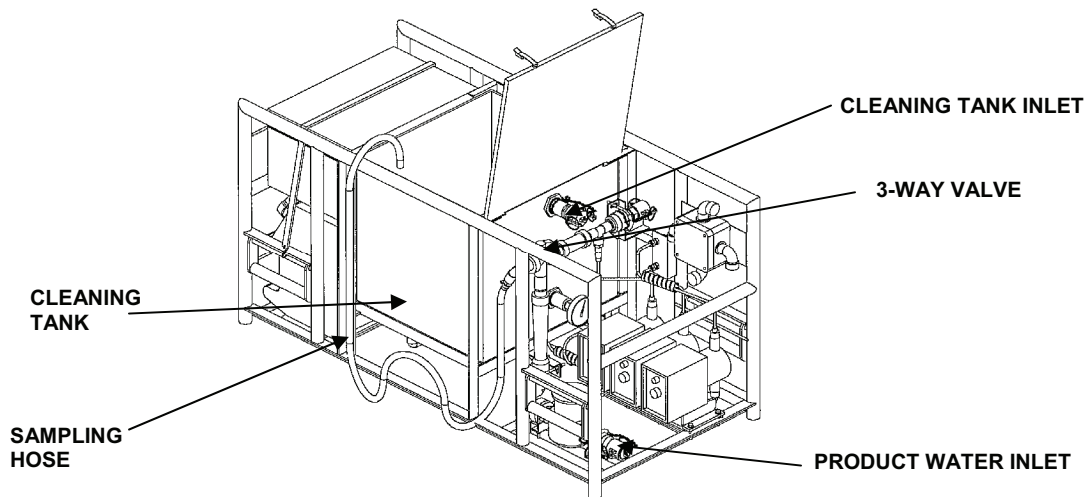

Figure 1. Filling Cleaning Tank.
1. Release the two latches on cleaning tank. Lift up cover. Use (gray) sampling hose to fill the cleaning tank to the bottom of the cleaning tank inlet. Open 3-way Valve to fill. See Figure 1.